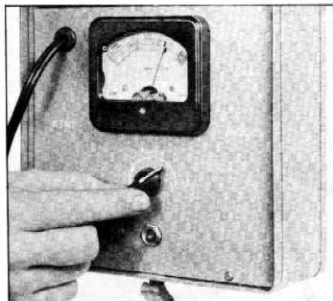

Fig. 70—Dim Sensitivity Adjustment—Rotating Meter Knob
8. Snap meter switch on test panel to "DIM" position. Turn meter control knob clockwise to set test panel in operation (fig. 70).